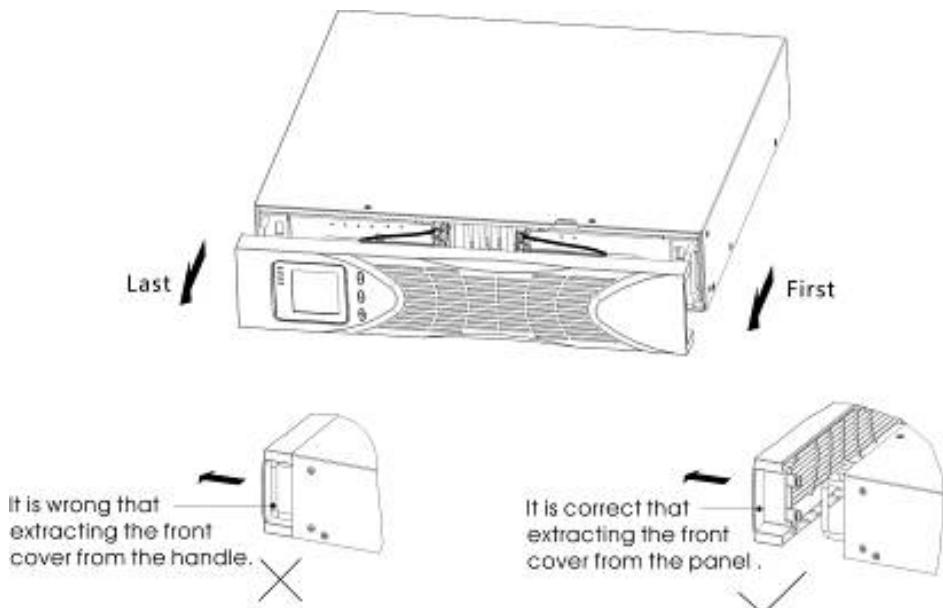

Figure 8 Removing the EBP Front Cover
- (1) To install the optional EBP(s) for a UPS
- a) Remove the front cover of each EBP and UPS (see Figure 8).